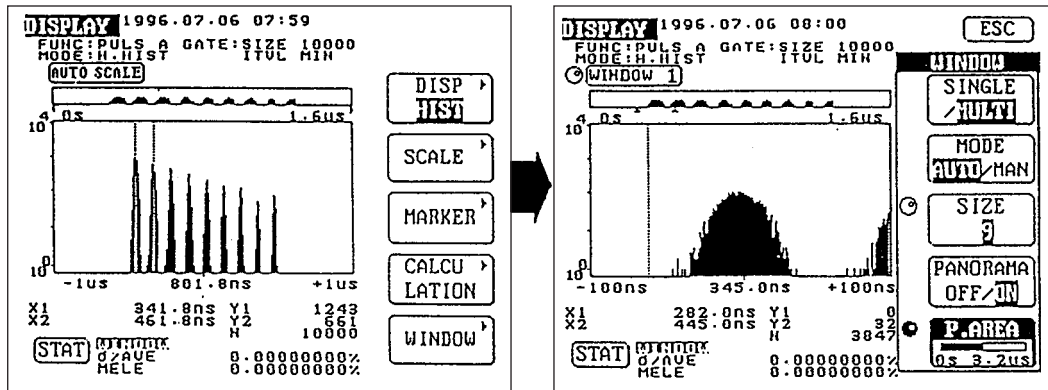

Figure 4 Multiwindow
### 1. Multiwindow Function (Figure 4)
- Histogram (Figures 4 and 9)